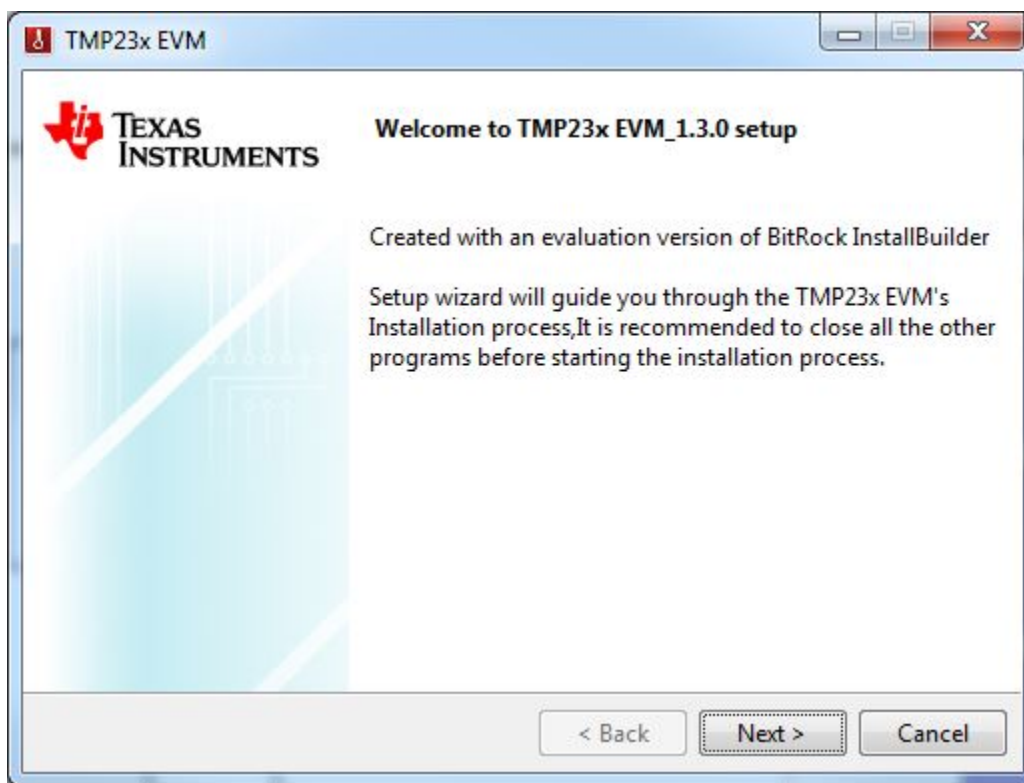

Figure 7. TMP23x EVM Installation Wizard
2. Unzip the downloaded file into a known directory and run the *Setup_TMP23xEVM_GUI_x_x.exe* file]. The EVM software installer then begins the installation process, as shown in Figure 7.